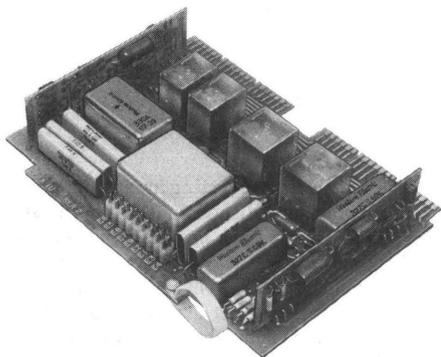

Fig. 1—101A (MD) Interconnecting Unit
**2.01 101A (MD) Interconnecting Unit**—An 8-inch circuit pack for use in the interconnection of a Bell System central office (CO) and a customer-provided PBX CO trunk where ground start signaling is required at the CO. This unit is intended to mount in a 604-type or 615A panel. (See Fig. 1.)